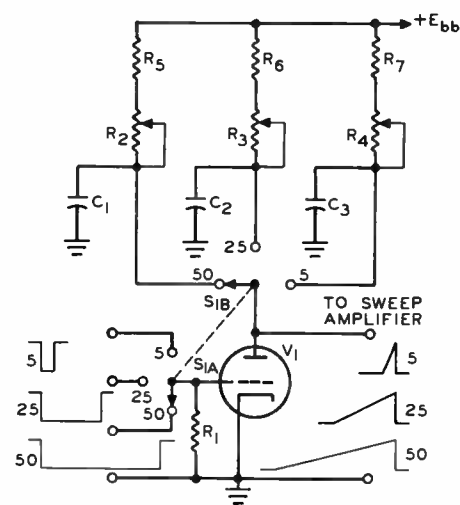

FIGURE 15
In the sweep circuit of Figure 15, the **TIME DURATION** of the sweep is determined by (A) the value of $+E_{bb}$. (B) the duration of the gate pulse. (C) the amplitude of the gate pulse. (D) the time constant of the sawtooth-forming capacitor and its series resistance.